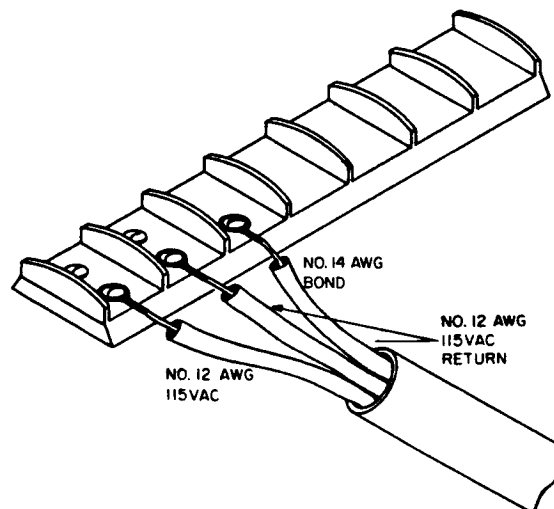

FIGURE 4-2. POWER CONNECTIONS TO TBE1101
2. Connect a 3-wire cable containing two #12 AWG and one #14 AWG wires. See figure 4-2.